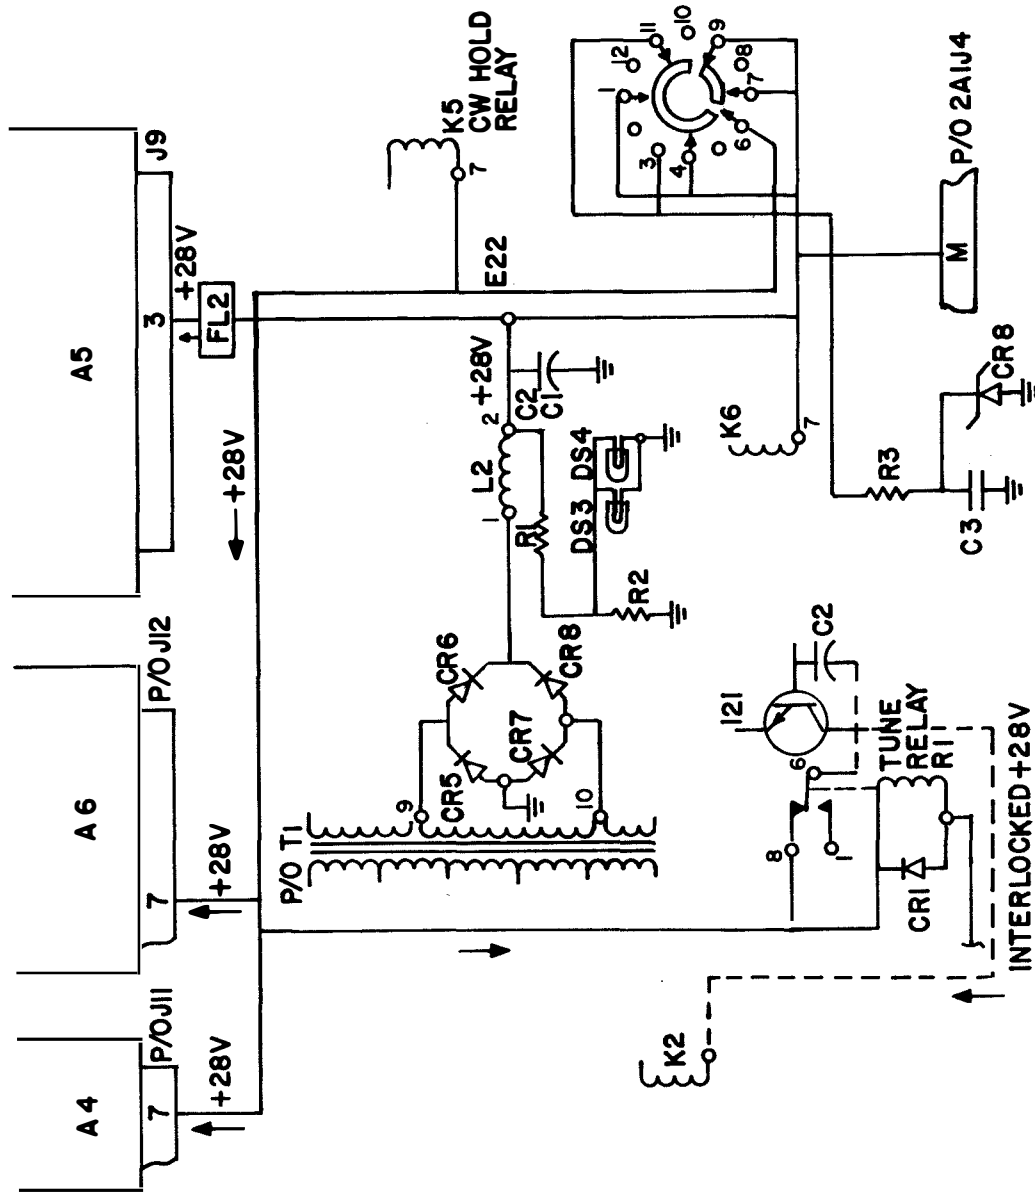

FIGURE 4
5. TRACE +28 VDC line using green as a recommended color on page 11 using Figure 4 starting at L2 terminal 2 (9-D)